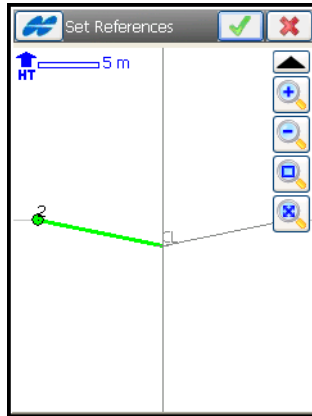

Figure 13-63. Set References
- The **Set Ref** button opens the *Set Reference* map to view/edit the references (Figure 13-63 on page 13-58). The green **Set Ref** button means that the references are already defined.